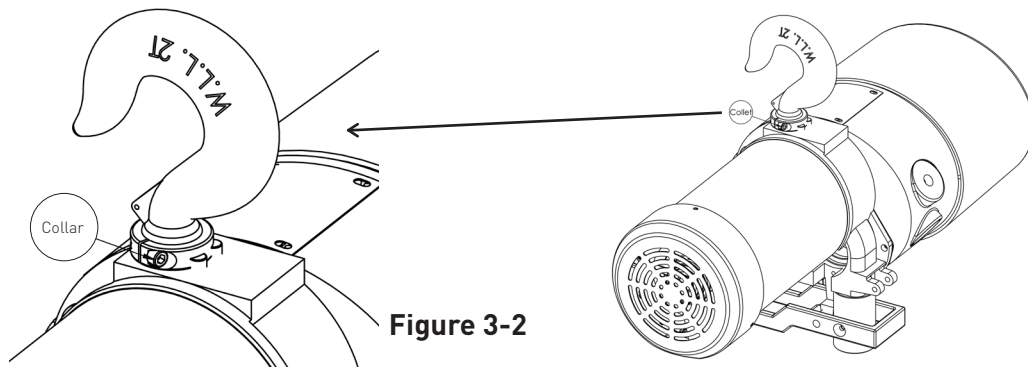

Figure 3-2
The hoist's upper hook or lug's orientation can be changed by loosening the collar at its base (see Figure 3-2). Do not forget to retighten the collar after having changed its orientation.
2. Bolt the chain container to the hole on the hoist casting's bottom. Pass the bolt H14 through the chain container and the hole with one 116A bushing on each side of the hole. Tighten the two H43 nuts: see Figure 3-2 below.